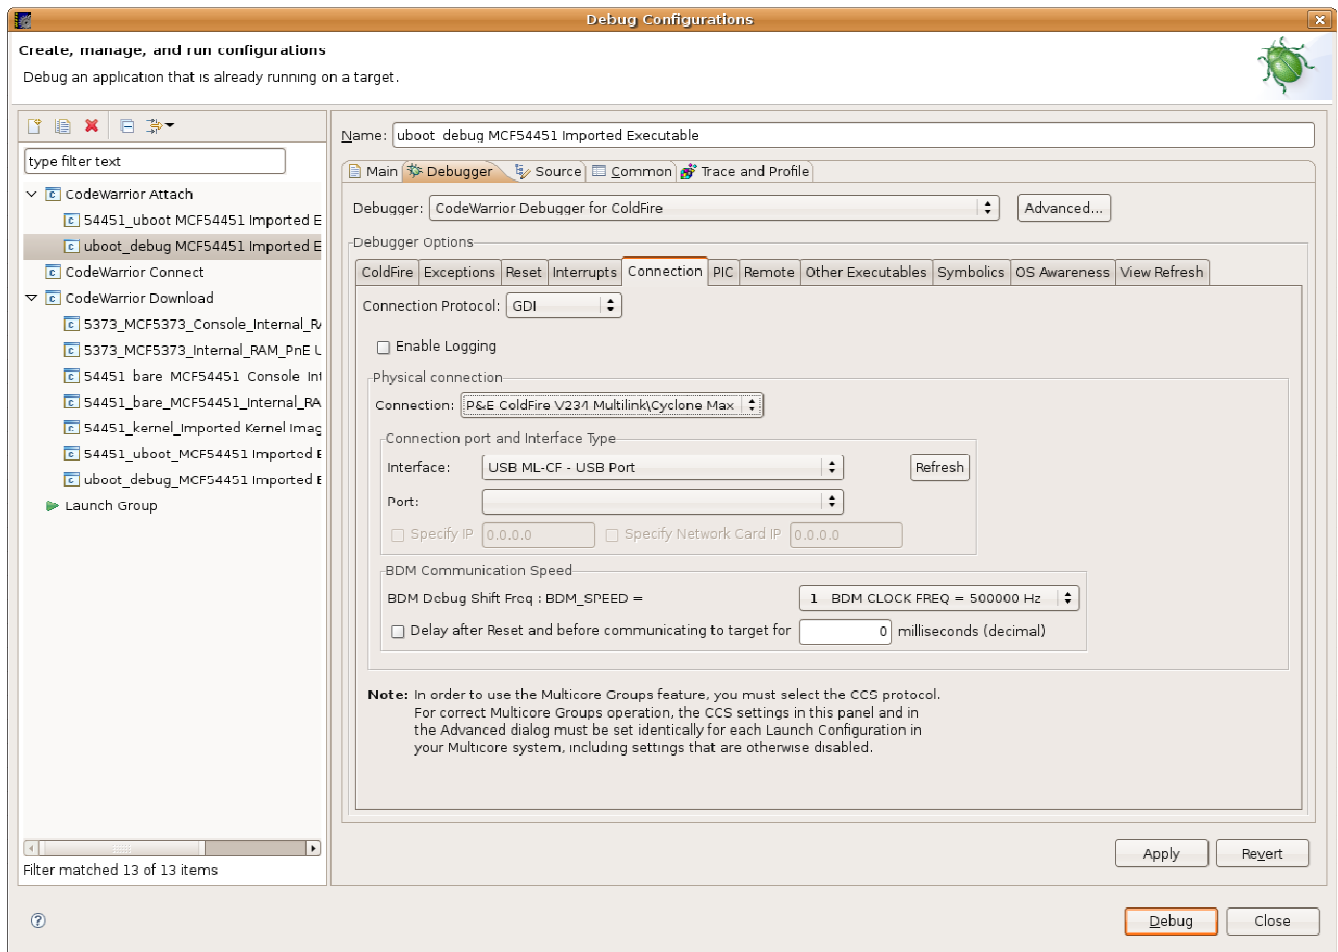

Figure-6 Debug configuration cont.
12) Click Debugger page **Connection** table, choose connection protocol: **GDI**, choose physical connection: **P&E ColdFire V234 Multilink**. Please refer to Figure-6.
Create an attach configuration with settings in Figure-6.